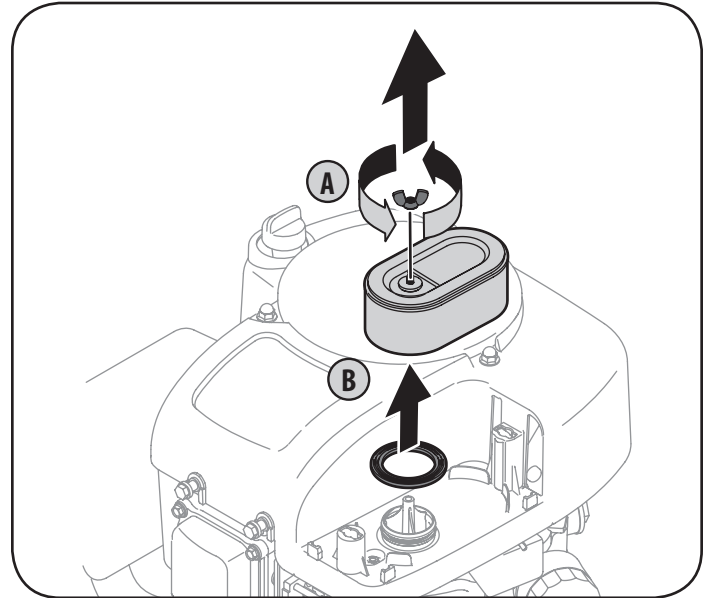

Figure 31
2. Remove thumb screw (A). See Figure 31.
3. Pull up and remove air filter and base seal (B). See Figure 31.